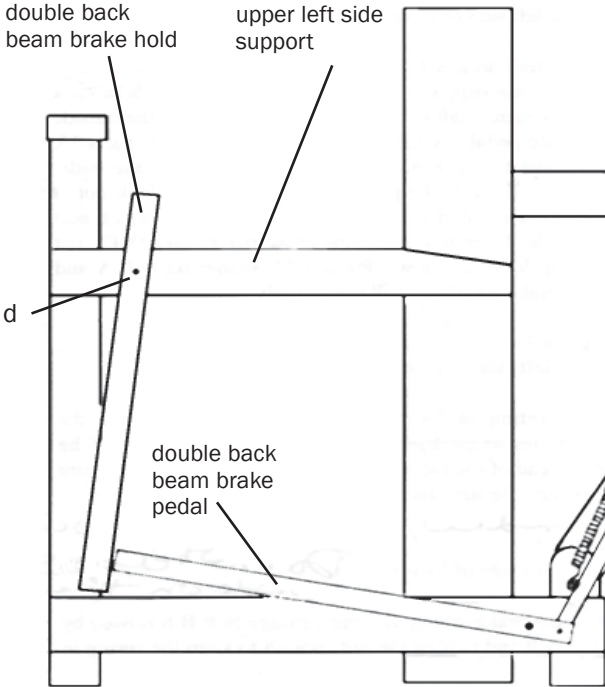

Figure 6
**Install the Brake Hold (Figure 6)**